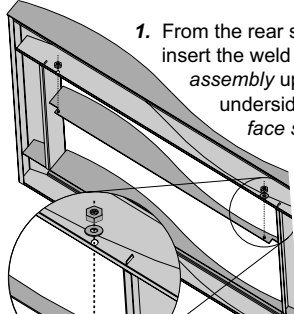

FIGURE 86
1. From the rear side of the *clean face surround*, insert the weld studs on the *top window plate assembly* upward through the holes on the underside of the top section of the *clean face surround*. (FIGURE 86)
2. Using a socket wrench, secure using the nuts and washers provided. Depending on your surround, space may be tight. (FIGURE 86)